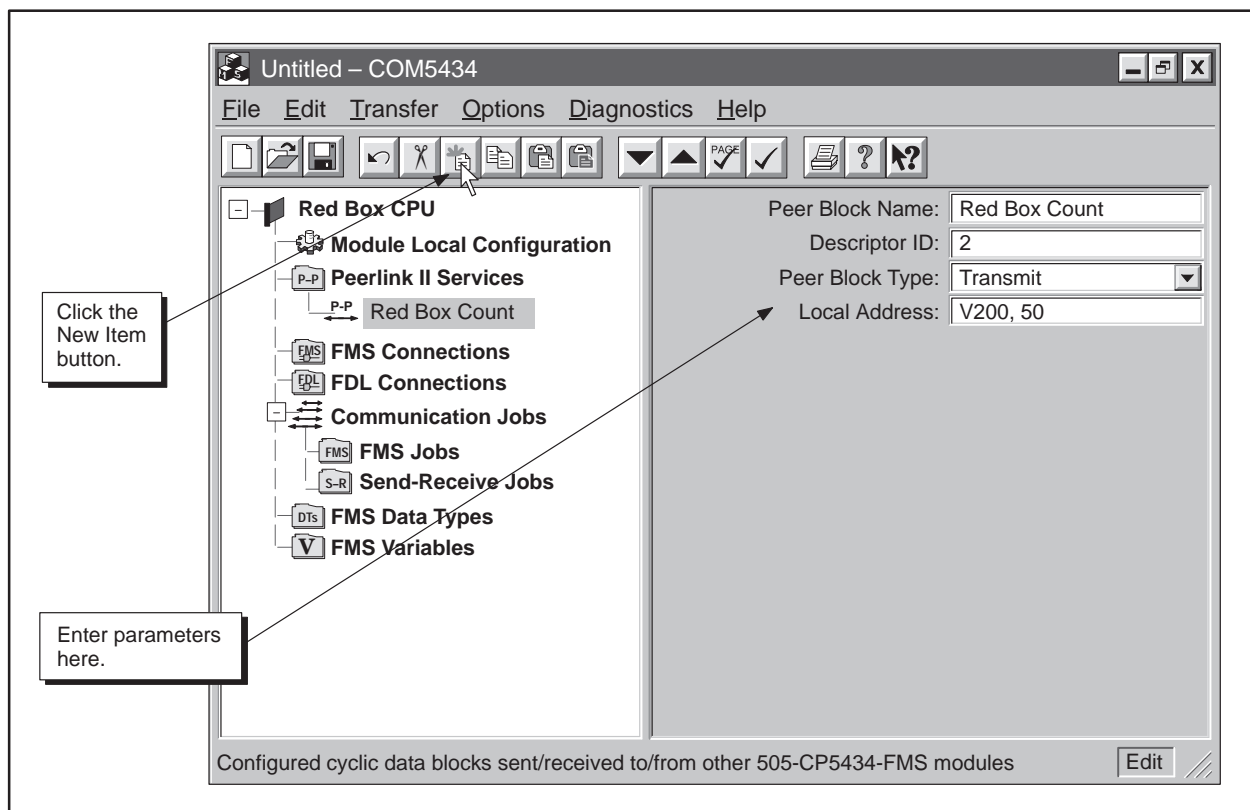

Figure 6-28 Peerlink II Transmit Service Example
4. Complete the fields listed below (and shown in Figure 6-28) to configure the Peerlink II Transmit service: